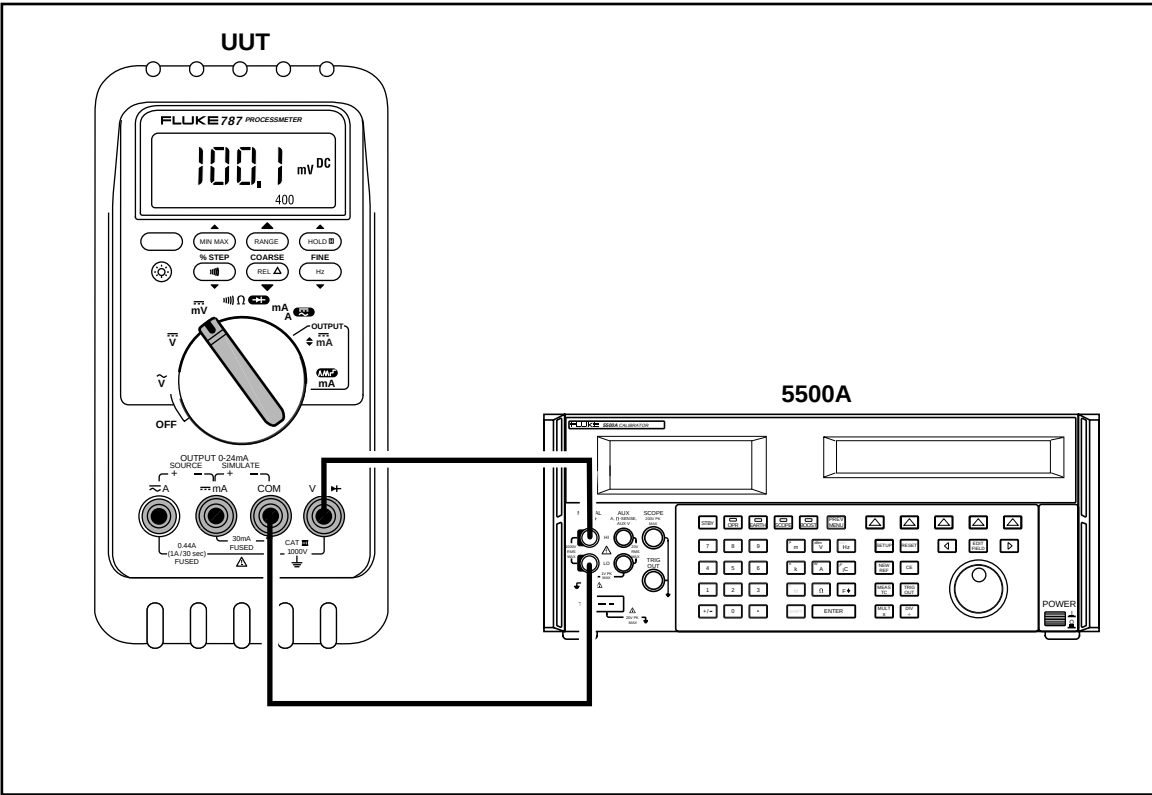

Figure 9. DC mV Measurement Test Connections
- 3. Connect the calibrator to the COM and $V\Omega\rightarrow$ terminals on the UUT as shown in Figure 9.